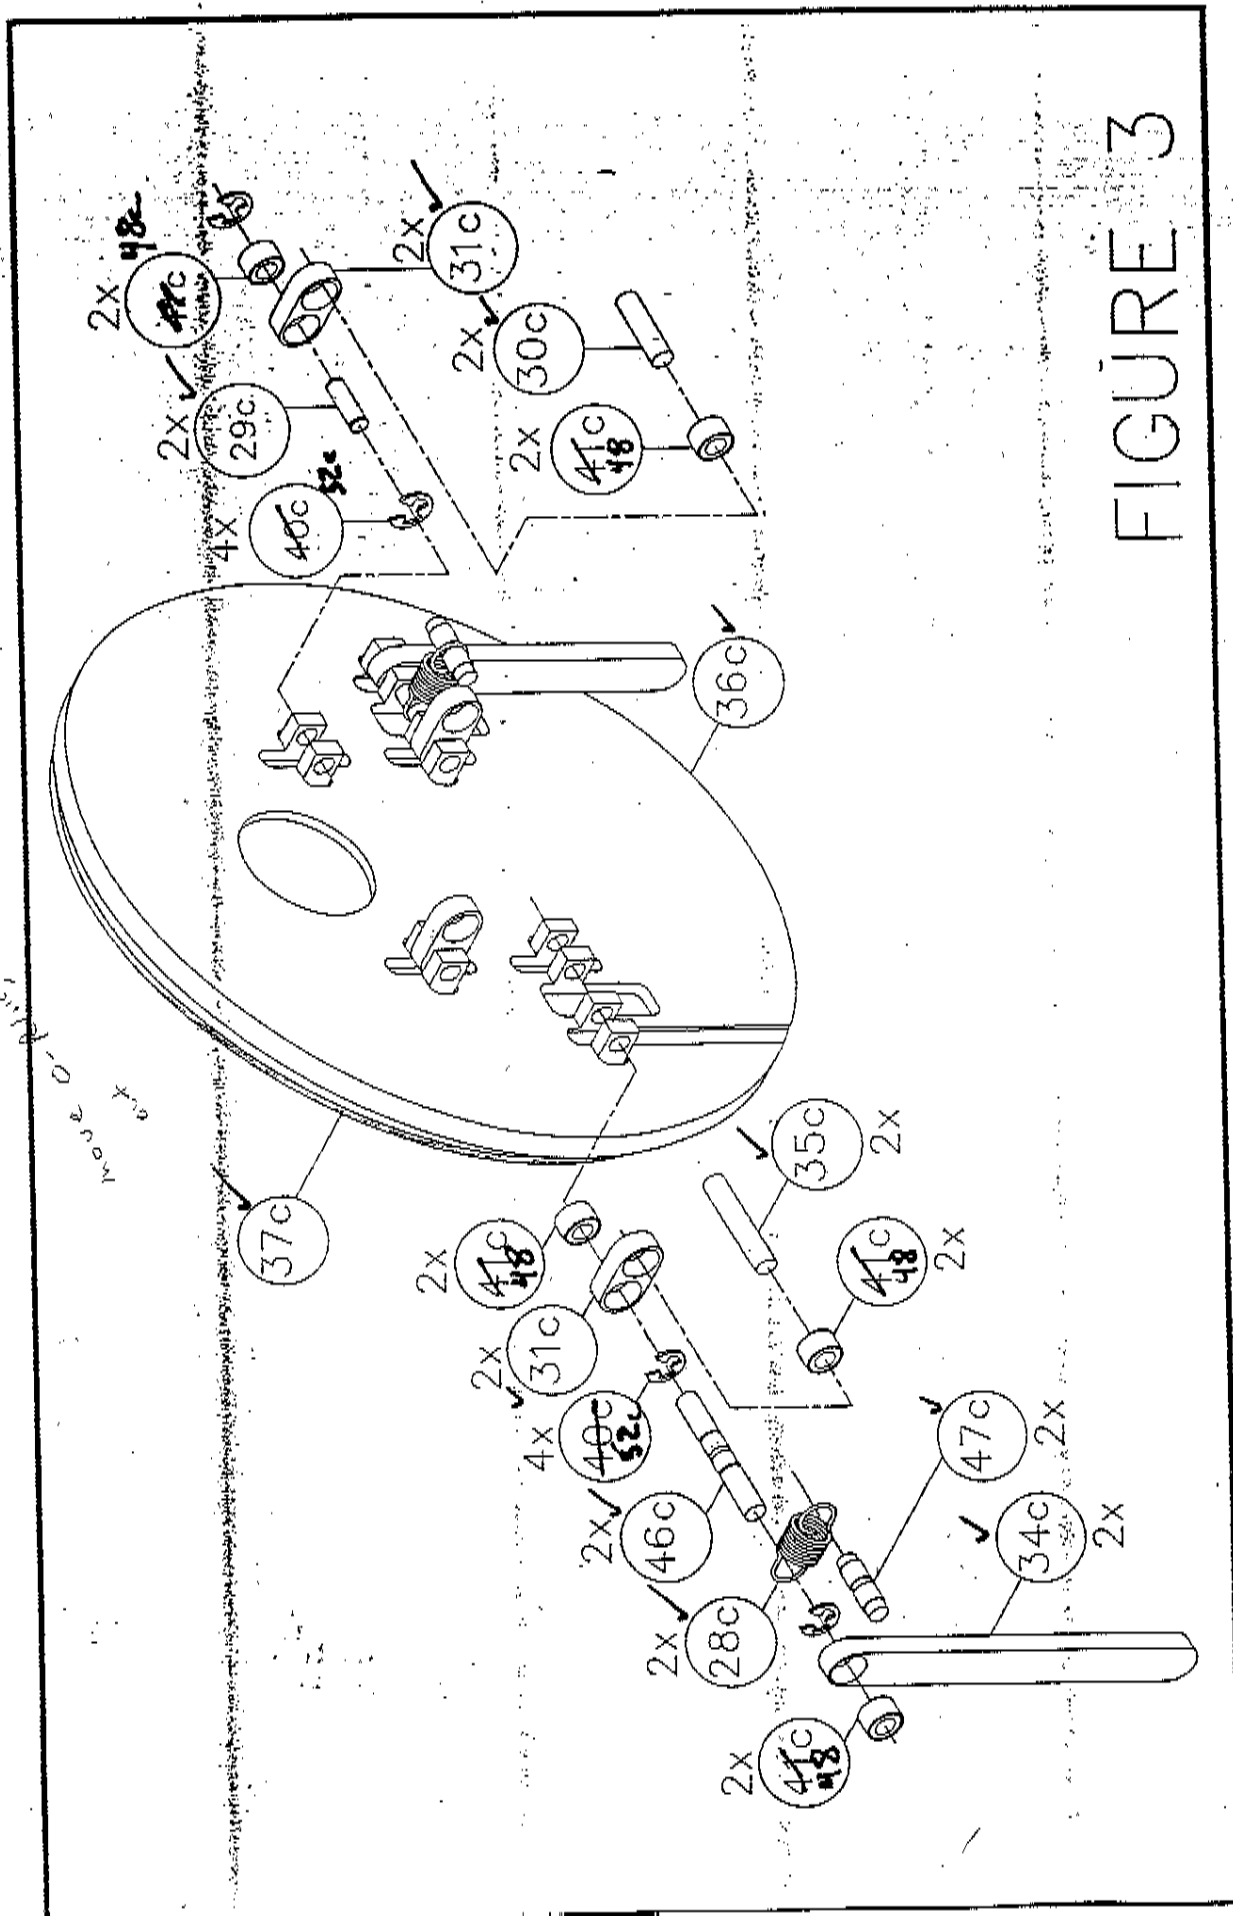

FIGURE 3
Assembly is shown in Figure 3.
- 4.7. Through slots in Strongback, capture loop of springs and hold in place. Extend springs and insert spring pins (47c, Figure 3).
- 6.2. Press all bearings (3c) and (16c) into Upper Linkage (2c) as shown in Figures 3 and 6.